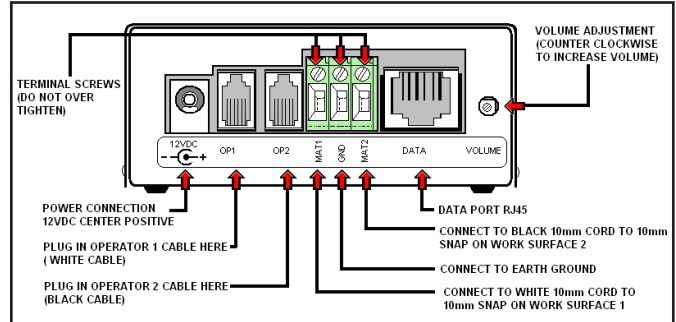

Figure 2. 62030 Rear View
- D. Attach the tinned wire ends of the mat wires to the appropriate screw terminal connection on the rear of the unit. (See Figure 2). The white wire is for operator #1 and the black wire is for operator #2.
H. Route the operator remote wires to the monitoring unit and insert the modular plugs into the appropriate jacks on the rear of the unit. (See Figure 2)